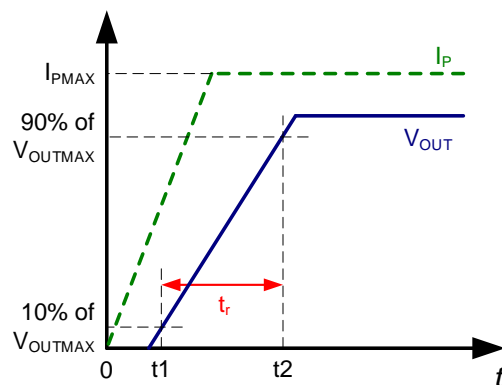

Figure 7: Rising Time ( $t_R$ )
2.  $t_2$ : The sensor's  $V_{OUT}$  reaches 90% of  $V_{OUT\_MAX}$  (see Figure 7).